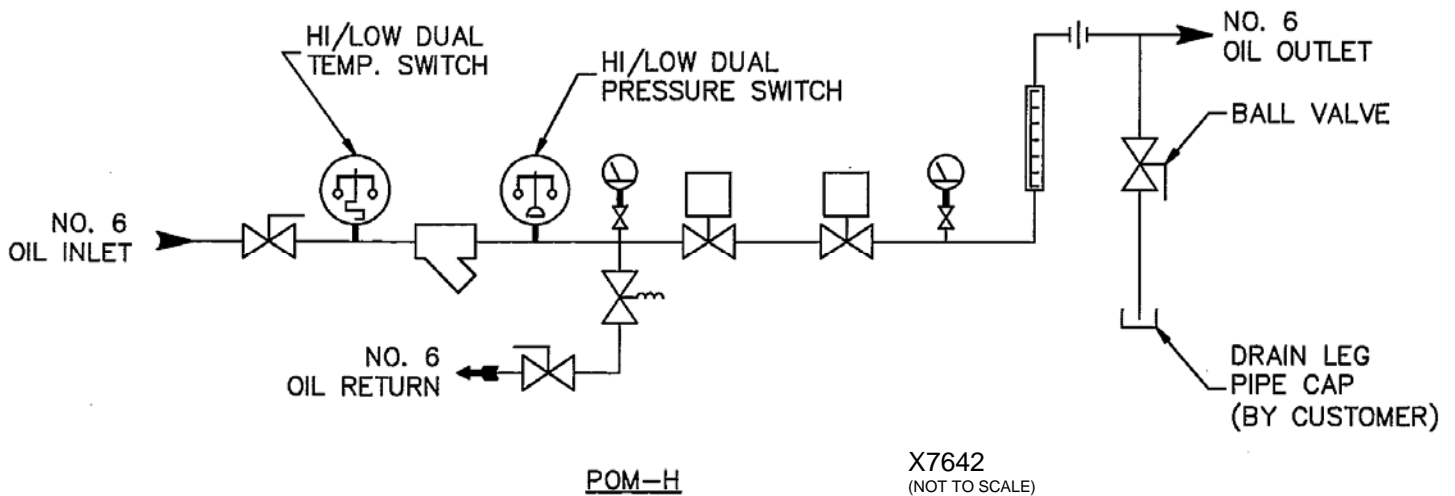

Figure 4. Typical Schematic of POM-H Drain Leg
5. Make the piping connection to the manifold outlet. It is recommended that a drain leg be installed at this point to facilitate draining the piping between the burner and POM-H to allow easy cleaning of the burner nozzle and prevent unnecessary fuel spillage (see Figure 4). Use an appropriate pipe sealant on all piping connections. Once the piping connections are made, the electrical connections can be started.